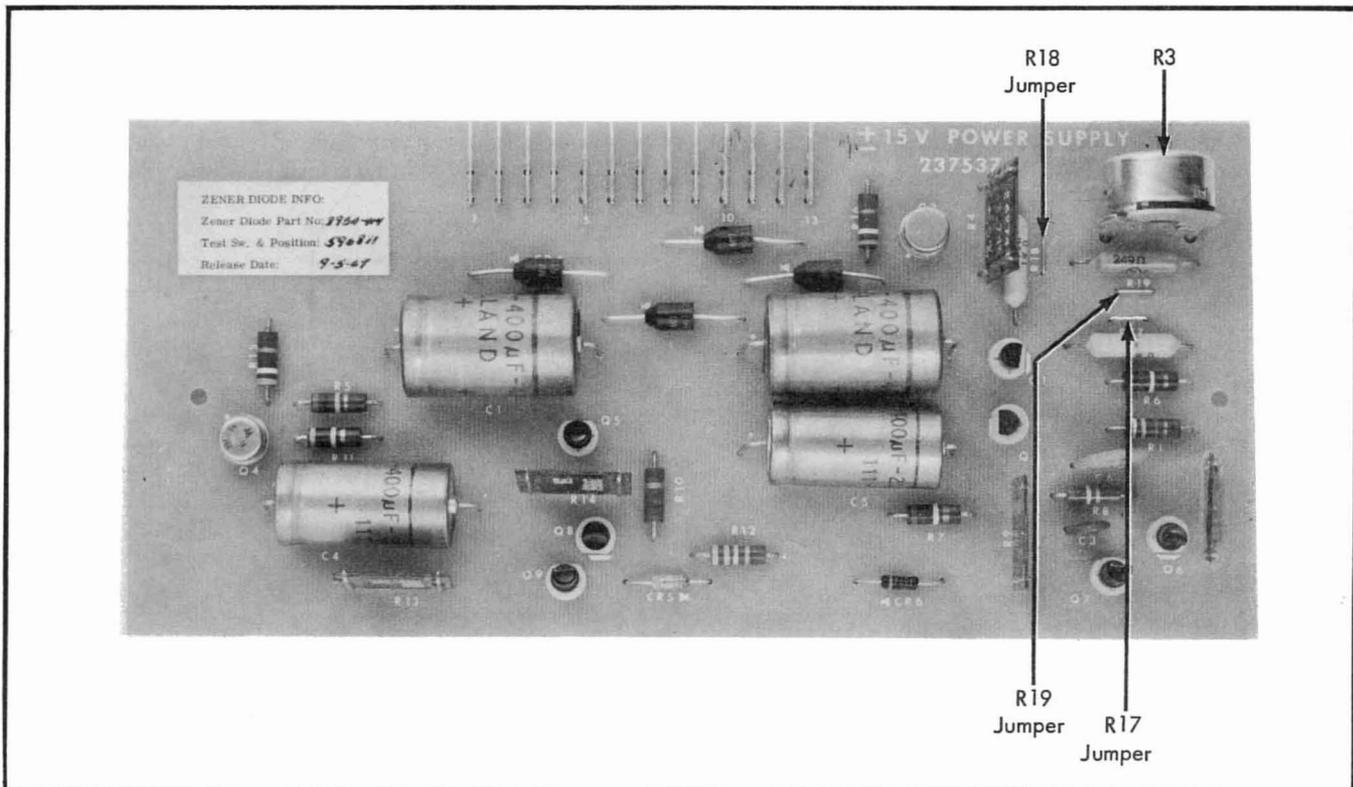

Figure 4-6. CALIBRATION JUMPERS ON  $\pm 15$  VOLT POWER SUPPLY
- b. Adjust R3 (see Figure 4-6) to obtain an indication of  $-15$  volts  $\pm 1$  millivolt.
- (1) Bend any cut shorting jumpers across R17, R18, and R19 into position and solder them so each resistor is shorted by a jumper. (See Figure 4-6.)
- (2) Turn R3 fully counterclockwise.
- (3) Measure the dc voltage between pin 13 (-15 volts) and pin 10 (common) and use the table below to determine which jumpers to cut.